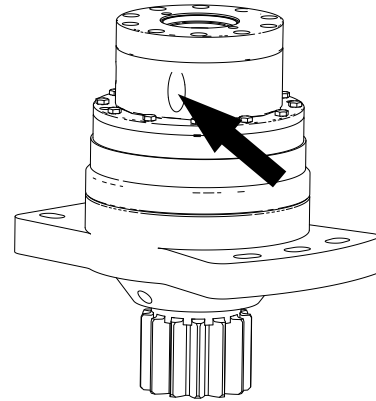

Figure 5-12
3. As indicated by the arrow Fig 5-12 , page 5-16, insert a 0.04mm feeler gauge between the bolt and washer.
6. As indicated by the arrow Fig 5-12 , page 5-16, insert a 0.04mm feeler gauge between the bolt and washer.